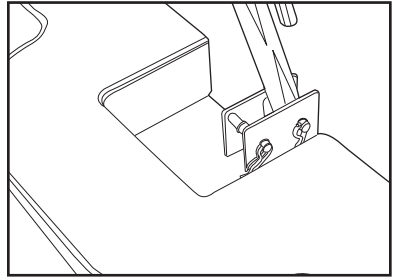

Fig. 4
7. Attach the handle to the mounting plate using a clevis pin. (See Fig. 4)